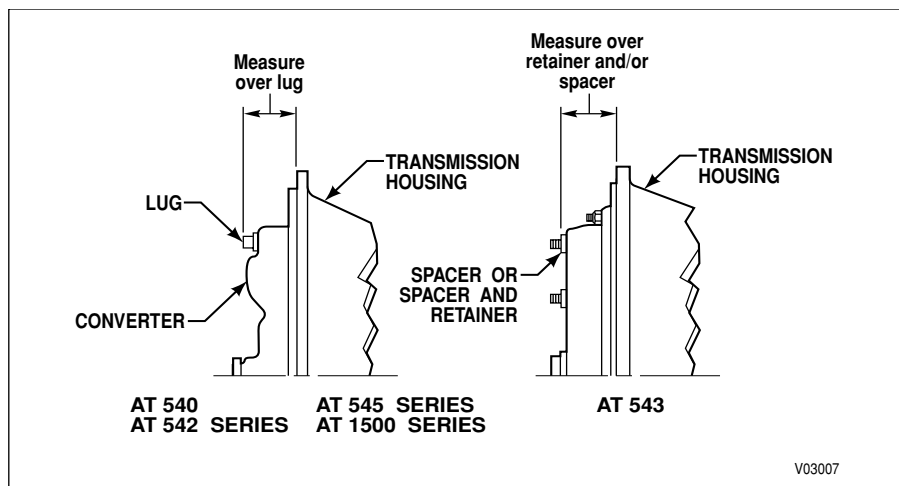

Figure 3-1. Converter Position Measurements
- To determine that there will be ample clearance for positioning the torque converter, measure as indicated in Figure 3-1. Check the results against the following dimensions.